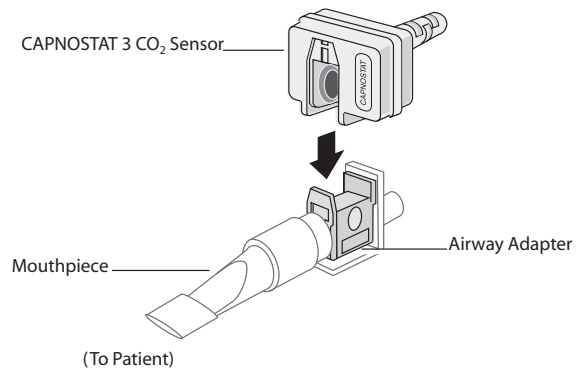

Figure 3
- b. Press the sensor and airway adapter together until they click (see Figure 3).